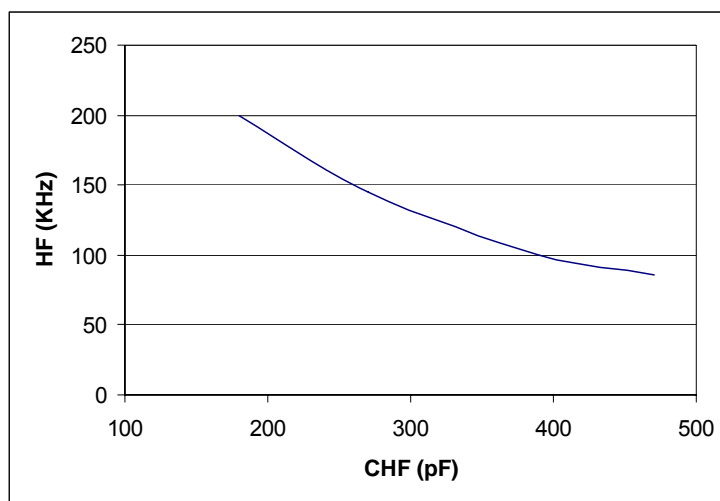

Figure 2 – Typical Inductor Frequency vs. CHF Capacitance
The frequency of the internal high frequency (HF) oscillator in the D388A IC is determined by the value of the external CHF capacitor and the internal resistors. Figure 2 shows the inverse proportional relationship the CHF value has with the HF frequency.